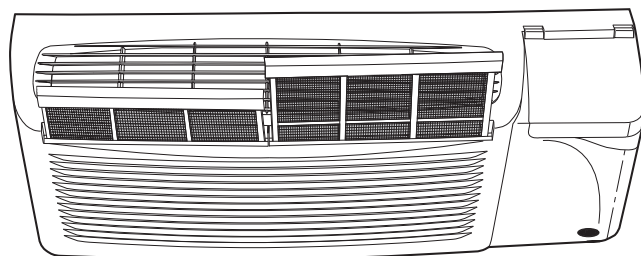

FIGURE 21 — LOCATION OF TWO-PIECE INDOOR FILTER
■ **CLEANING THE INDOOR AIR FILTER** — Two air filters are located in the unit's front panel. To remove each filter simply grasp each filter handle with both hands and gently pull the filter up and away from the unit. See Figure 21.